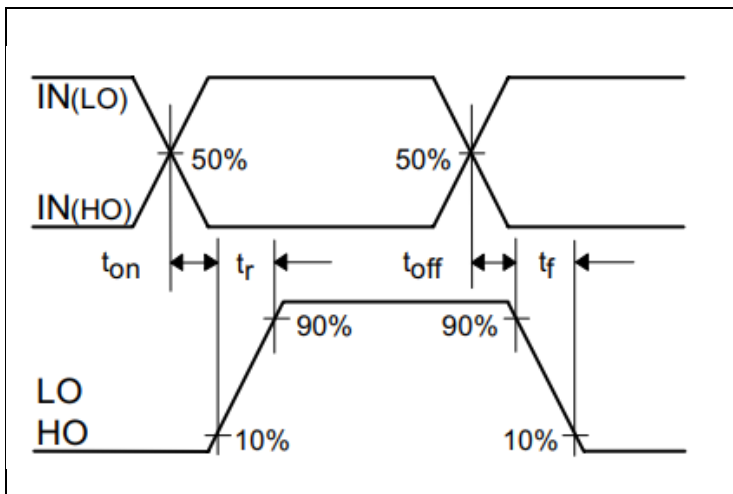
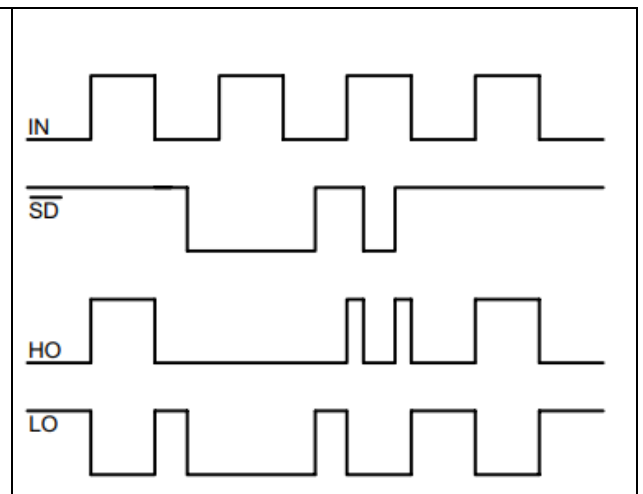

Figure 6 Switching timing diagram
Figure 7 Input/output logic diagram
The relationships between the input and output signals of the 2ED2184 (4) S06F (J) are illustrated below in Figure 6 and Figure 7. From these figures, we can see the definitions of several timing parameters (i.e.  $t_{ON}$ ,  $t_{OFF}$ ,  $t_R$ , and  $t_F$ ) associated with this device.